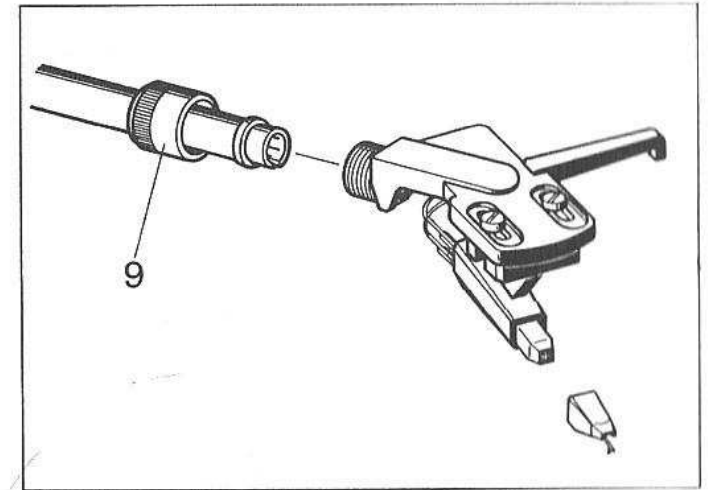

Fig. 6
- This has been correctly installed if the tip of the stylus – viewed from above – is in the V-shaped recess of the system installation gauge. Viewed from the side, the stylus must be in the area of the rectangular recess (fig. 6).
To fit a stylus in, follow the procedure in reverse order (fig. 6).